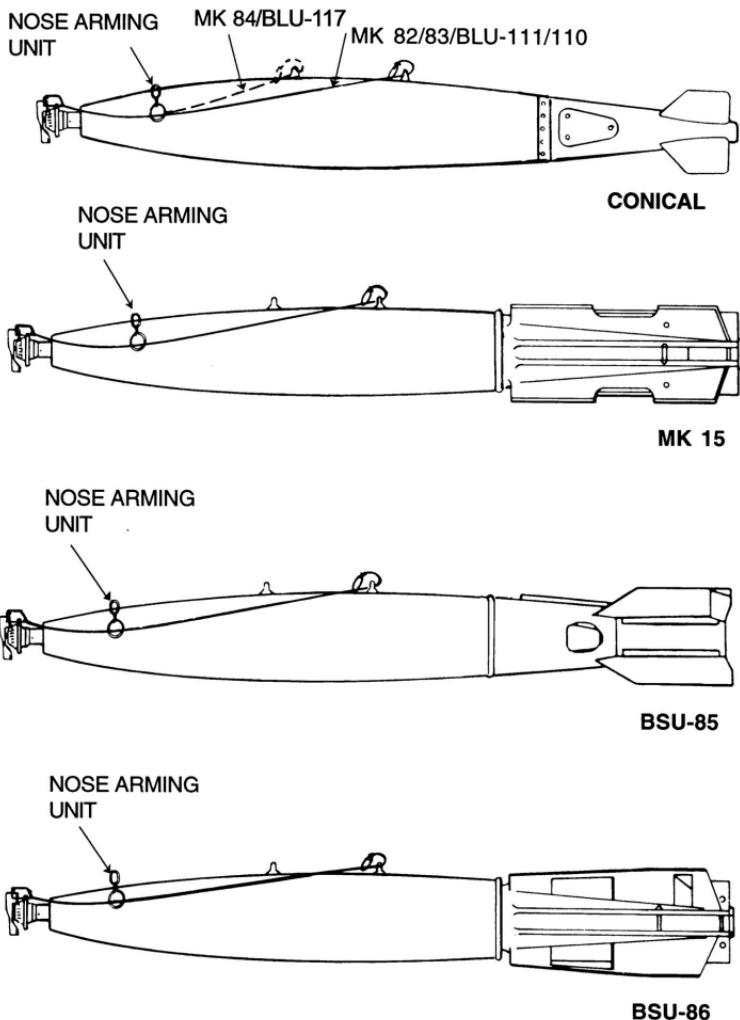

Figure 4. NONRETARD, Mechanical Nose Fuze
- 6. (As applicable) Install/connect arming wire(s) (Figs. 4 through 13)()